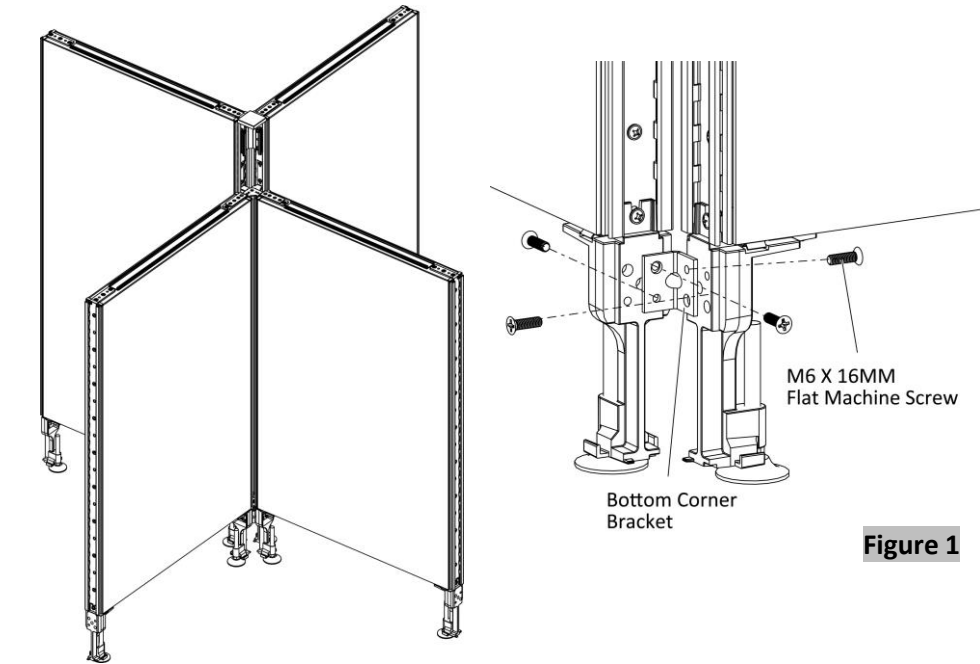

Figure 1
2. Securely fasten the bottom corner bracket to the panel legs with four M6 X 16MM Flat Machine Screws, (Figure 1).